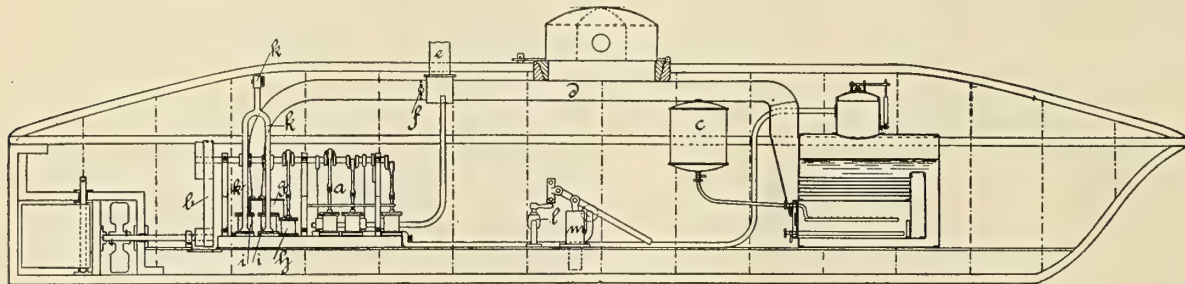

FIG. 20. VOGEL'S BOAT, 1868.
*Vogel's Boat, 1868.*—During the years 1867-72, Vogel, of Dresden, had worked on the plans of a submarine boat, shown in Fig. 20, and did not succeed in getting beyond the first trial. The boat was built at the former Schlick's yard, in Dresden, in the year 1868. Her dimensions were: Length, about 16 ft.; depth, 4 ft. Her construction consisted of T iron frames and